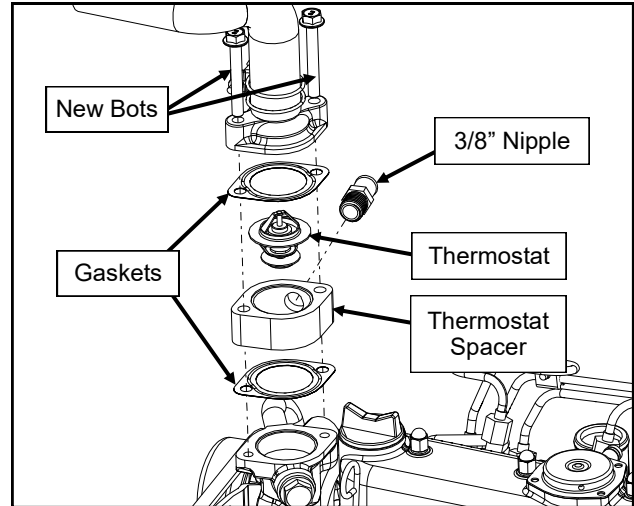

Figure 20.7 (Install Thermostat Spacer)
- 20.7** Pre-install the 3/8" NPT Nipple into the thermostat spacer using Teflon tape. Install the thermostat spacer onto the engine using a new gasket provided, followed by the thermostat, another new gasket, and the thermostat housing with new longer bolts. Ensure that the nipple is pointing towards the front left of the vehicle. See Figure 20.7.